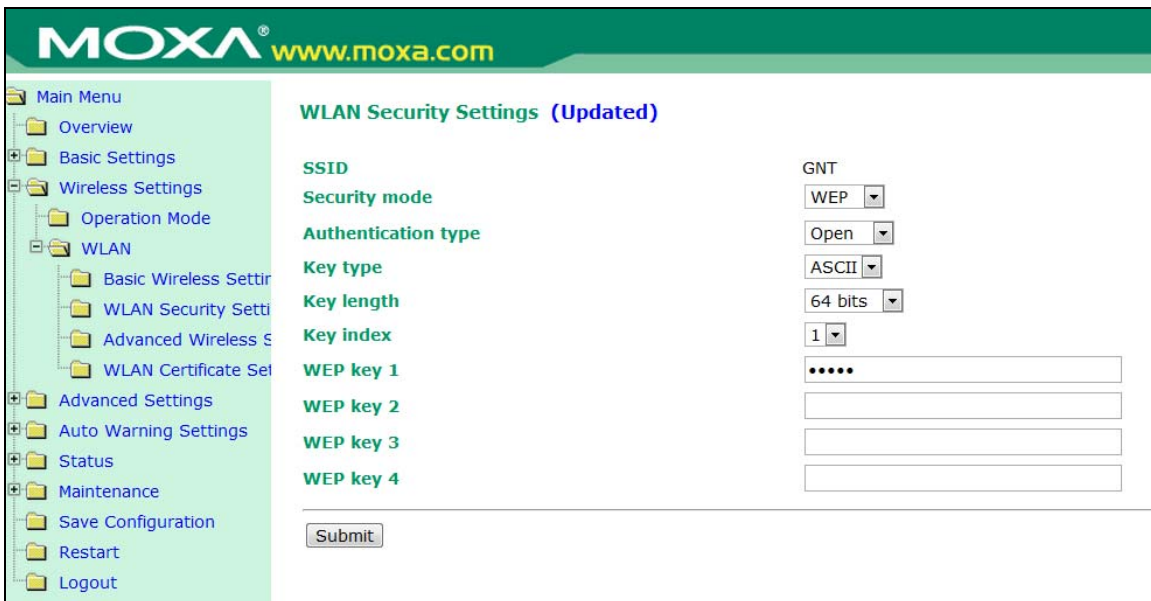

Figure 32: AWK4121 Security Settings
- d. **WLAN|WLAN Security Settings:** If using WDS mode, WEP security is the only security mode option available. Enter WEP key(s) and the key index (Figure 32).